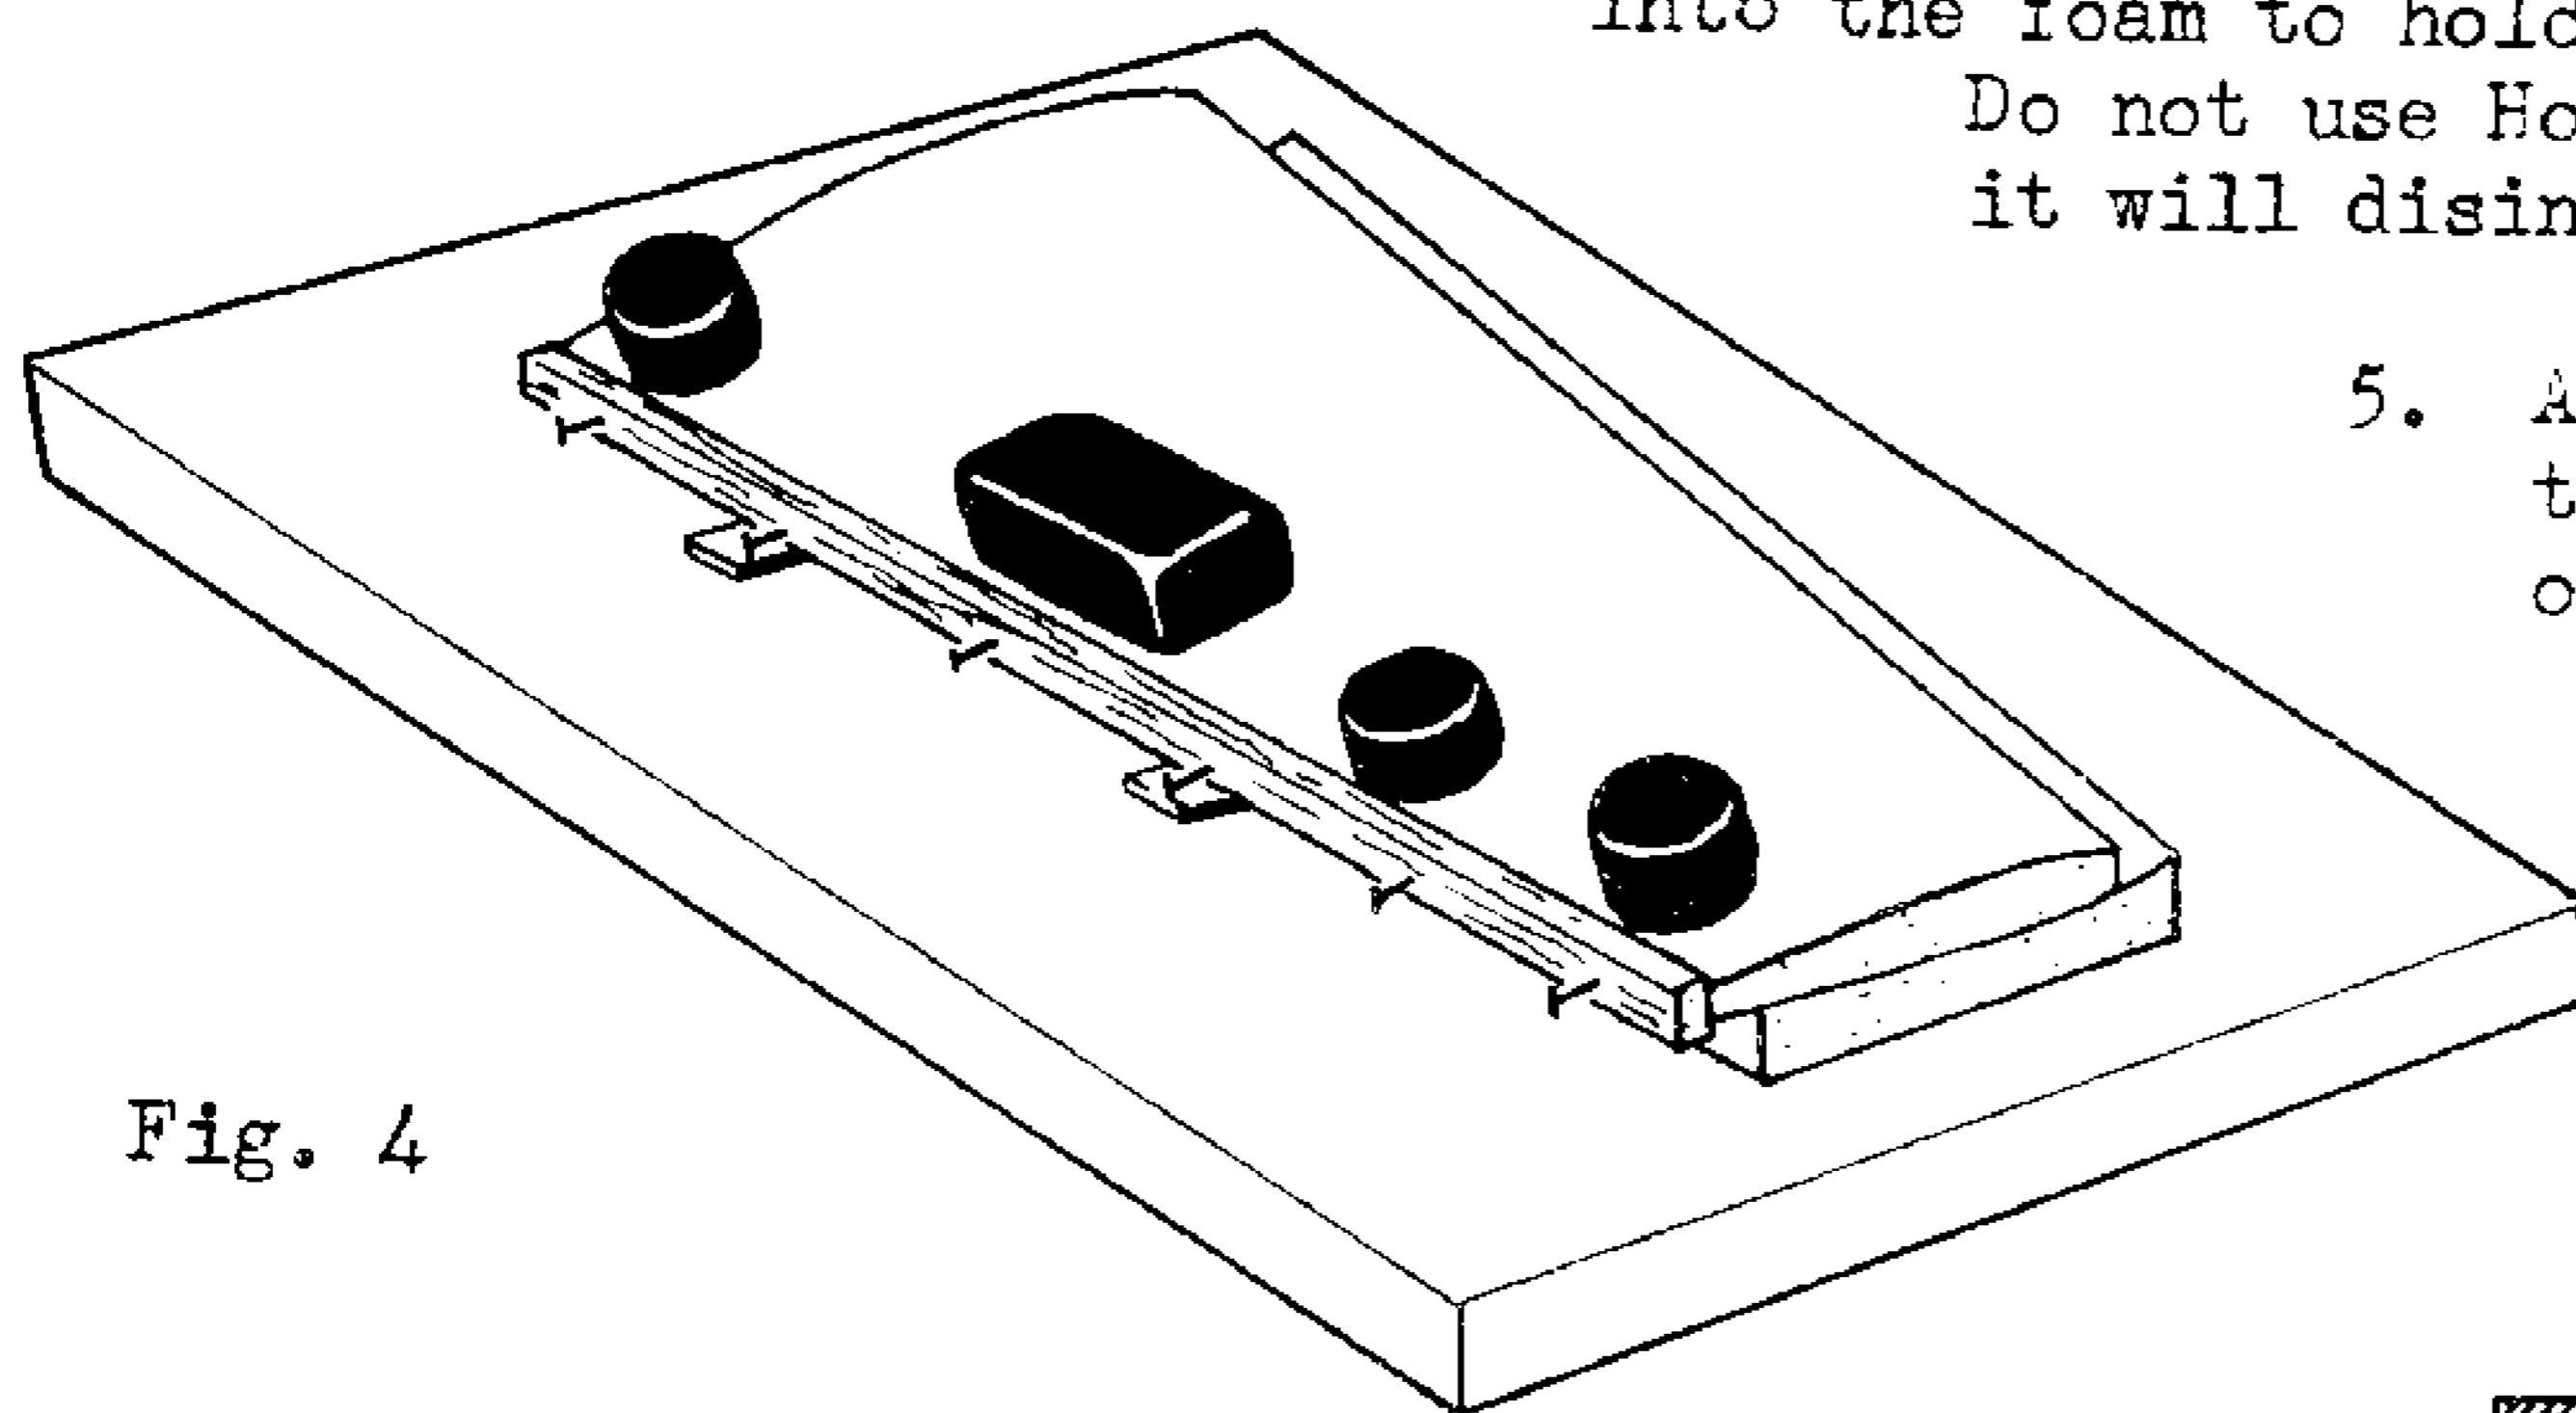

Fig. 4
4. Insert a number of T-pins through the centerline of the 1/4" x 1/2" x 36" medium soft balsa trailing edge with their points barely protruding. Apply 5-minute epoxy and place the balsa against the rear of the wing, being careful not to disturb the aligned surface. Push the T-pins through into the foam to hold the balsa in place as in figure 4. Do not use Hot Stuf in contact with foam as it will disintegrate the foam.